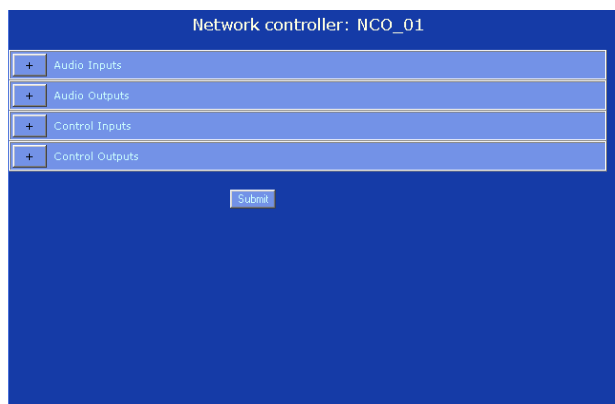

figure 34.3: Configure network controller, step 2
- 2 Click the name of the network controller that must be configured. A screen similar the one in figure 34.3 appears in the main frame of the web interface.